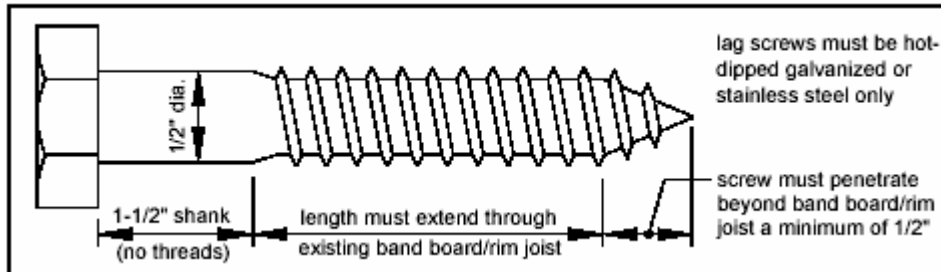

Figure 12 - Lag Screw Requirements
**Lag Screws:** Lag screws shall have a minimum diameter of 1/2" and shall be hot-dipped galvanized or stainless steel. Lag screws may be used only when the field conditions match those shown in Figure 12. **You must verify the existing conditions in the field prior to applying for a building permit and installing lag screws. Compliance with all the requirements herein is critical to ensure the structural stability of your deck.** See Figure 12 for lag screw length and shank requirements. All lag screws shall be installed with washers. Lag screws are those where a pilot hole is drilled into the wood members that are to be connected together and the lag is screwed into the hole, a washer is required on the lag head, but no nut and washer is needed on the screw end.
Decks that are free-standing do not utilize the exterior wall of the existing house to support vertical or lateral loads. Support at or near the house is provided by an additional beam and posts. See Figure 12. Beam size is determined by Table 2 or Table 3.